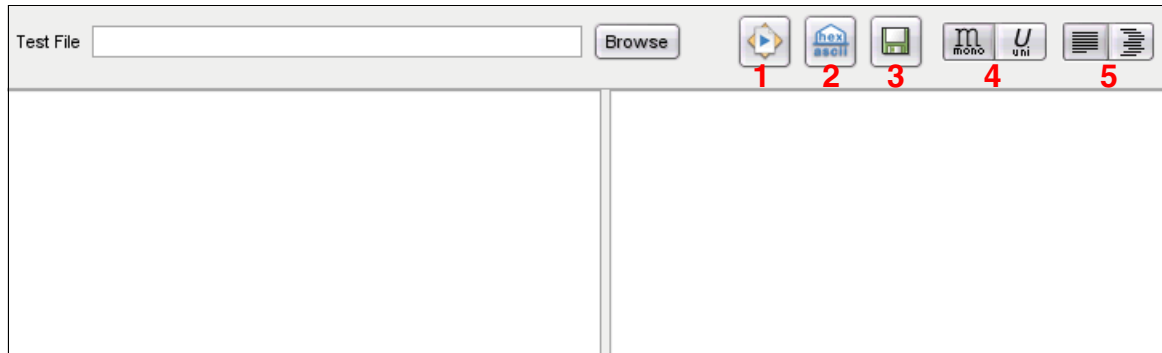

Figure 3-112 The Flat File Schema testing tool
The Flat File Schema editor includes a testing tool at the bottom of the editor pane, as shown in Figure 3-112. The tool takes sample data and attempts to parse the data using the flat file schema that is defined.
The left pane in Figure 3-112 holds the test data, and the right pane displays the results after that data is parsed.
Enter data in the left pane by either cutting and pasting the data or using the Browse button to select data from a file. Click the Test icon, marked (1) in Figure 3-112, to run the test. A window might open displaying an error or a warning if the test failed.